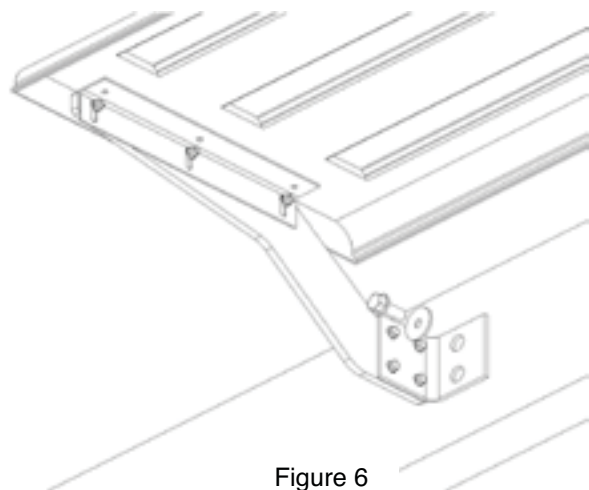

Figure 6
- A. Place the center bracket as close to the end of the fender as possible. Using the center bracket as a guide, drill three 5/16" holes in the fender. Use the 5/16" x 1-1/4" supplied bolts to attach fender to bracket. Figure 6 shows a typical center bracket installation. Try and use existing holes to mount center bracket to truck frame.